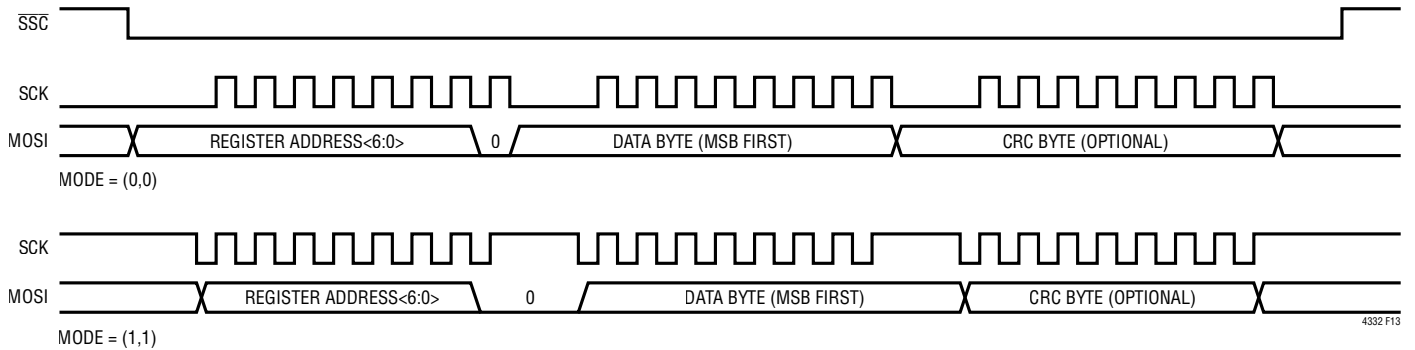
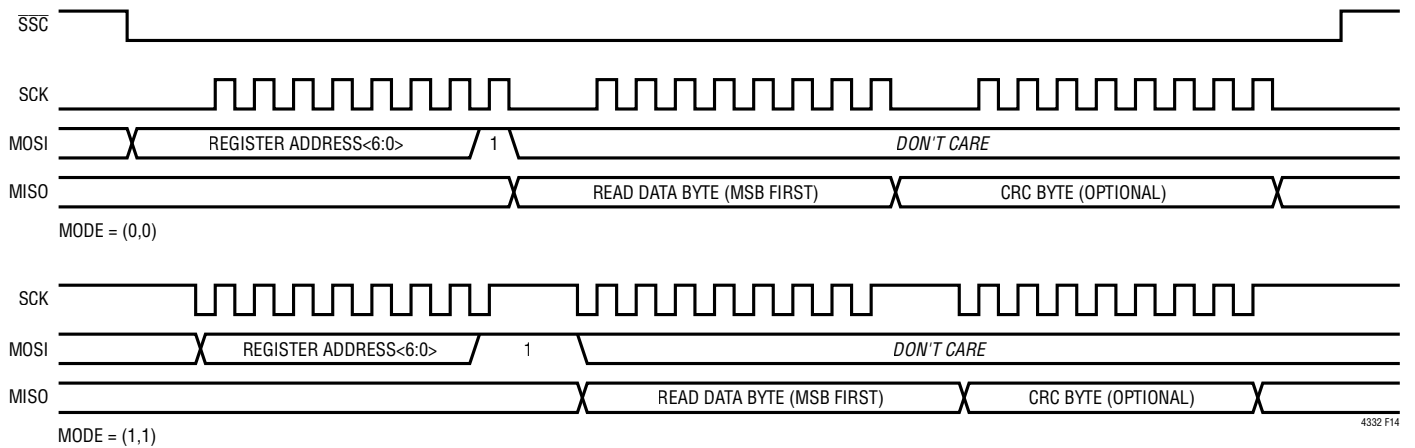

Figure 13. Control Interface Write Transfer
Figure 14. Control Interface Read Transfer
The LTC4332 provides a separate slave select pin,  $\overline{\text{SSC}}$ , that allows a user to access the internal control interface for configuration and monitoring. The interface supports SPI modes (0,0) and (1,1) only. Read and write accesses are shown in Figure 13 and Figure 14. The bit order is MSB first. The first byte includes the register address in bits <7-1> and a read(1)/write(0) bit in the LSB. Only single data byte accesses per transfer are supported. Programmed values are retained while  $V_{\text{CC}} \geq 3.0\text{V}$ .
- IEC 61000-4-5 Surge Level 4:  $\pm 5$ kV (line to GND, line to line, 8/20 $\mu$ s waveform, each line coupled to generator through 80 $\Omega$  resistor per Figure 14 of the standard)